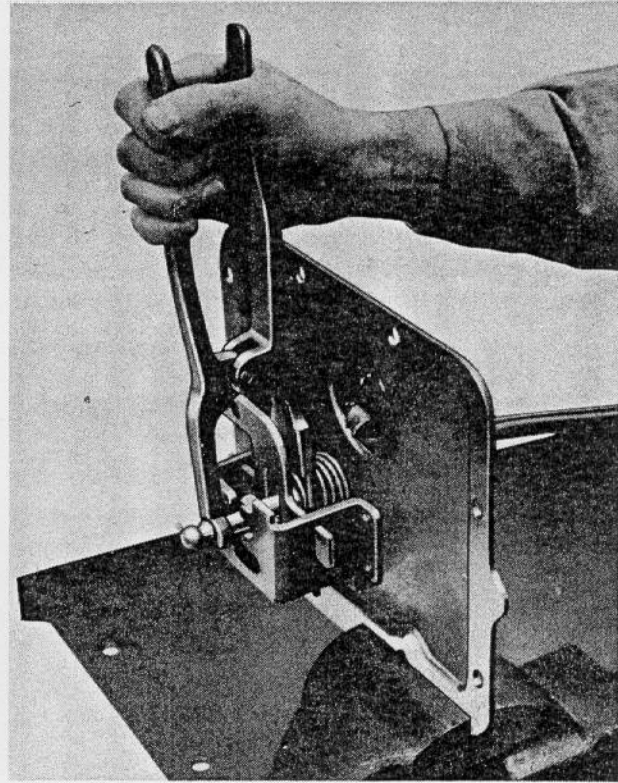

Fig. 2
- Step 4—Compress the spring as shown in Figure 2 and remove the spring retainer.